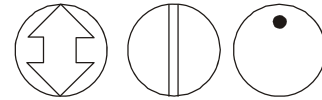

Figure 7: Damper Position Icons
- Check that the damper blade is visible or its position is permanently marked on the end of the damper shaft, as illustrated in Figure 7.